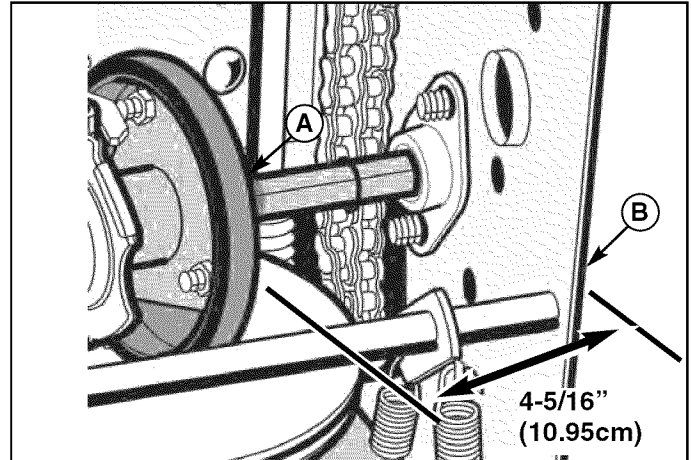
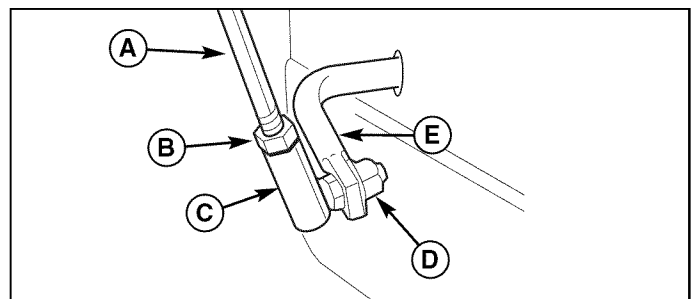

Figure 18. Friction Disc Measurement
Figure 19. Speed Selector Linkage
- Note the position of the friction disc (A, Figure 18). The correct distance from the right side of the friction wheel to the outside of the frame is 4-5/16" (10.95 cm). If the friction disc is not in the correct position, adjust as follows.
- Loosen the jam nut (B, Figure 19).
- Remove locknut (D).
- Move the friction disc (A, Figure 18) to the correct distance, 4-5/16" (10.95 cm).